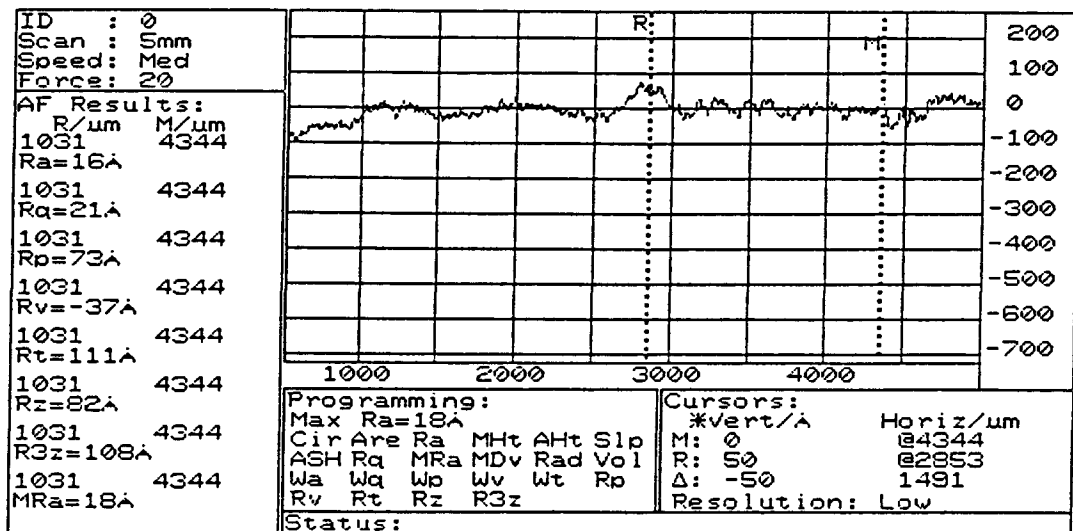

Figure 6-2. Programming Multiple Analytical Functions
4. Using the arrow keys, move the prompt over the desired function to be performed and press **ENTR**. The function will be added to the "AF Results" section of the display showing the R and M cursor locations and the result (Figure 6-2).